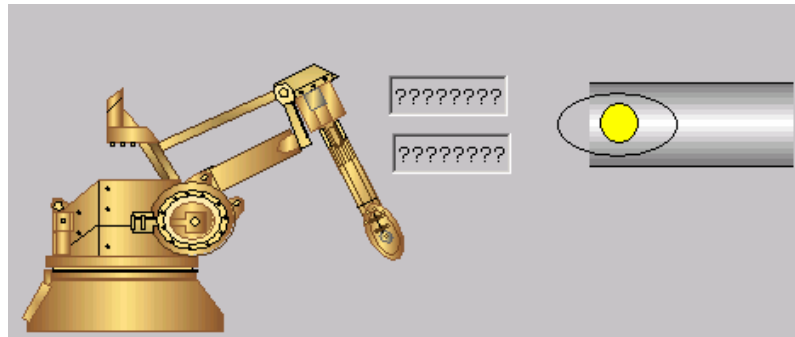

Figure 5.14. Bubble in the Pipe
2. With the circle still selected (it has the resize handles shown around it), click on the **Yellow** square in the color toolbar to change the fill color used for the circle. When complete, it should look similar to the illustration shown in **Figure 5.14**.